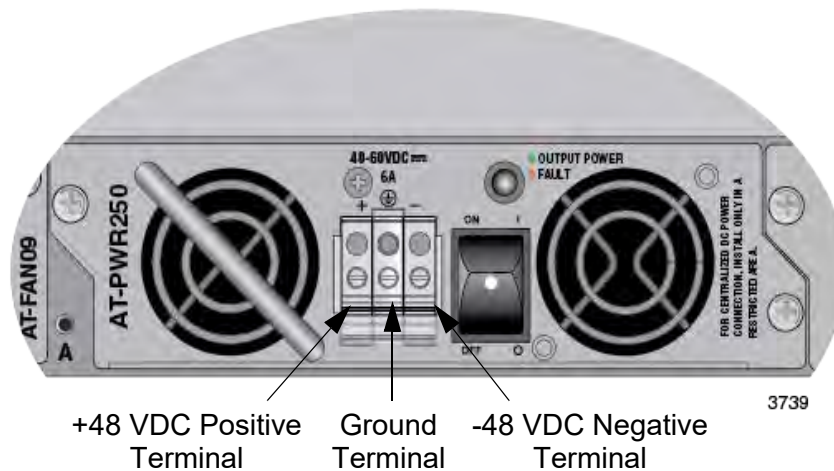

Figure 96. DC Terminal Block
3. Use the legend above the terminal block to identify the terminals. The terminals are **positive**, **power supply ground** and **negative**, from left to right, as shown in Figure 96.